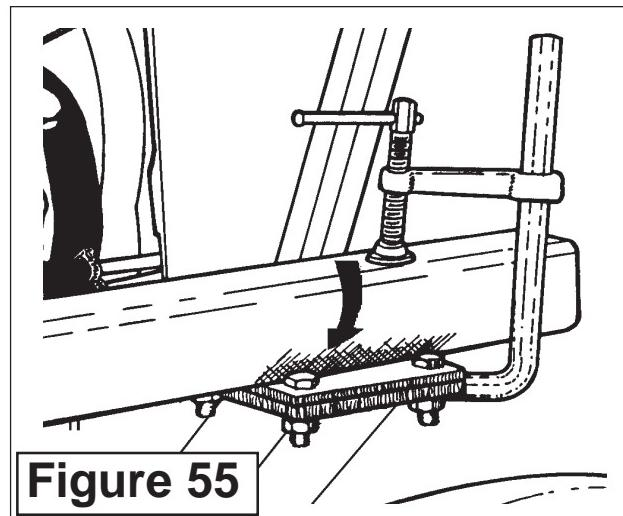
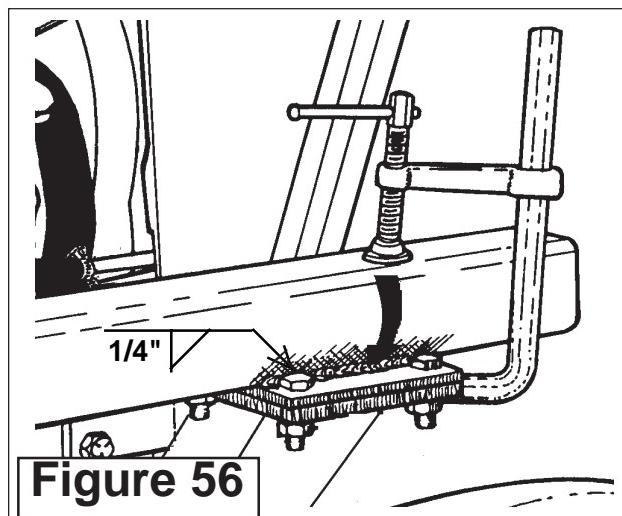

Figure 55
Figure 56
6. The Side Rails. These Frame rails will be welded to the Rail Support Plates, so it will be necessary to scrape the paint off approximately $5/8"$ of the base before attaching. Clamp Side Rails to Front Mount Supports. (See Figure 55). Tack-weld rails to Front Mount Brackets. After thorough check for horizontal and parallel location, weld a solid $1/4"$ fillet weld bead $8"$ long on both sides. (See Figure 56). Note that any Step Type Counter Weight must clear the Left Rear Tire.
2. Install the Bolts into the rear Axle Housing to support the rear of the frame rails. This is the same for LH & RH. Snug the Bolts only. Do not tighten them yet because the frame rails will have to be moved around to align all the Bolt Holes. (**See Figure 56**). The RH rear Frame Rail Mounting will need the Bolts removed to install the Axle Mounted Boom Rest (**See figure 5, 6 & 7**).